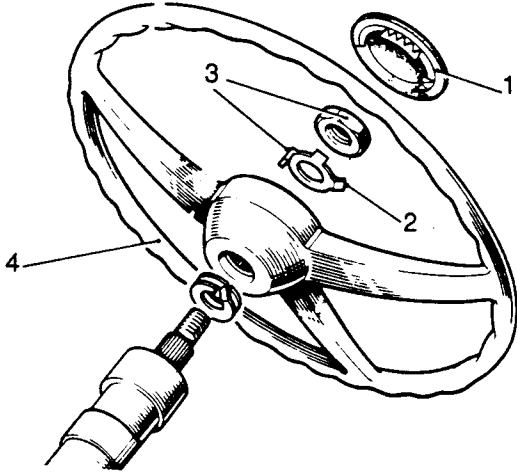

Fig L4.25
- (1) Refer to Fig L4.25. Prise off the wheel centre cover (1).
- (2) Release the locking tab (2).
- (3) Remove the tab washer and fixing nut (3).
- (4) Withdraw the steering wheel (4). Take care not to lose the spring washer below the wheel.